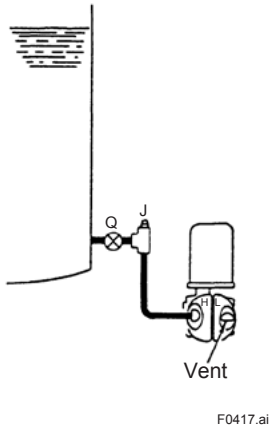

Figure 4.17 Direct Connected or with Seal Liquid
- (1) Direct Connect or Liquid Purge (Refer to Figure 4.17, 4.18, 4.19)